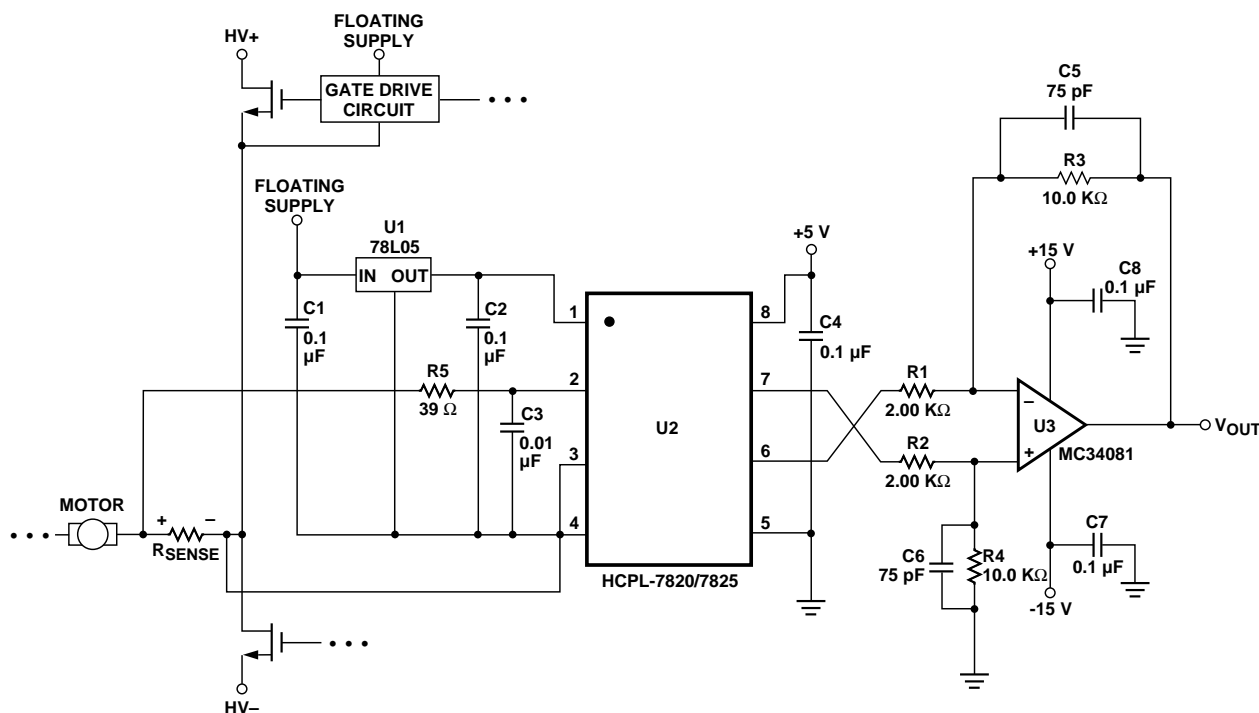

Figure 24. Recommended Application Circuit.
9. IMR (also known as CMR or Common Mode Rejection) specifies the minimum rate of rise of an isolation mode noise signal at which small output perturbations begin to appear. These output perturbations can occur with both the rising and falling edges of the isolation mode waveform and may be of either polarity. A CMR failure is defined as a perturbation exceeding 200 mV at the output of the recommended application circuit (Figure 24). See applications section for more information on CMR.
The recommended application circuit is shown in Figure 24. A floating power supply (which in many applications could be the same supply that is used to drive the high-side power transistor) is regulated to 5 V using a simple three-terminal voltage regulator (U1). The voltage from the current sensing resistor, or shunt ( $R_{SENSE}$ ), is applied to the input of
As shown in Figure 24, 0.1  $\mu$ F bypass capacitors (C2, C4) should be located as close as possible to the input and output power supply pins of the HCPL-7820/7825. The bypass capacitors are required because of the high-speed digital nature of the signals inside the isolation amplifier. A 0.01  $\mu$ F bypass capacitor (C3) is also recommended at the input pin(s) due to the switched-capacitor nature of the input circuit. The input bypass capacitor should be at least 1000 pF to maintain gain accuracy of the isolation amplifier.
Figure 24. Pin 2 ( $V_{IN+}$ ) is connected to the positive terminal of the shunt resistor, while pin 3 ( $V_{IN-}$ ) is shorted to pin 4 (GND1), with the power-supply return path functioning as the sense line to the negative terminal of the current shunt. This allows a single pair of wires or PC board traces to connect the isolation amplifier circuit to the shunt resistor. In some applications, however, supply currents flowing through the power-supply return path may cause offset or noise problems. In this case, better performance may be obtained by connecting pin 3 to the negative terminal of the shunt resistor separately from the power supply return path. When connected this way, both input pins should be bypassed. Whether two or three wires are used, it is
The recommended application circuit (Figure 24) includes a post-amplifier circuit that serves three functions: to reference the output signal to the desired level (usually ground), to amplify the signal to appropriate levels, and to help filter output noise. The particular op-amp used in the post-amp is not critical; however, it should have low enough offset and high enough bandwidth and slew rate so that it does not adversely affect circuit performance. The offset of the op-amp should be low relative to the output offset of the HCPL-7820/7825, or less than about 5 mV.
shown in Figure 24 form a differential amplifier with a gain of 5 and a cutoff frequency of approximately 200 kHz and were chosen as a compromise between low noise and fast response times. The overall recommended application circuit has a bandwidth of 130 kHz, a rise time of 2.6  $\mu$ s and delay to 90% of 4.2  $\mu$ s.